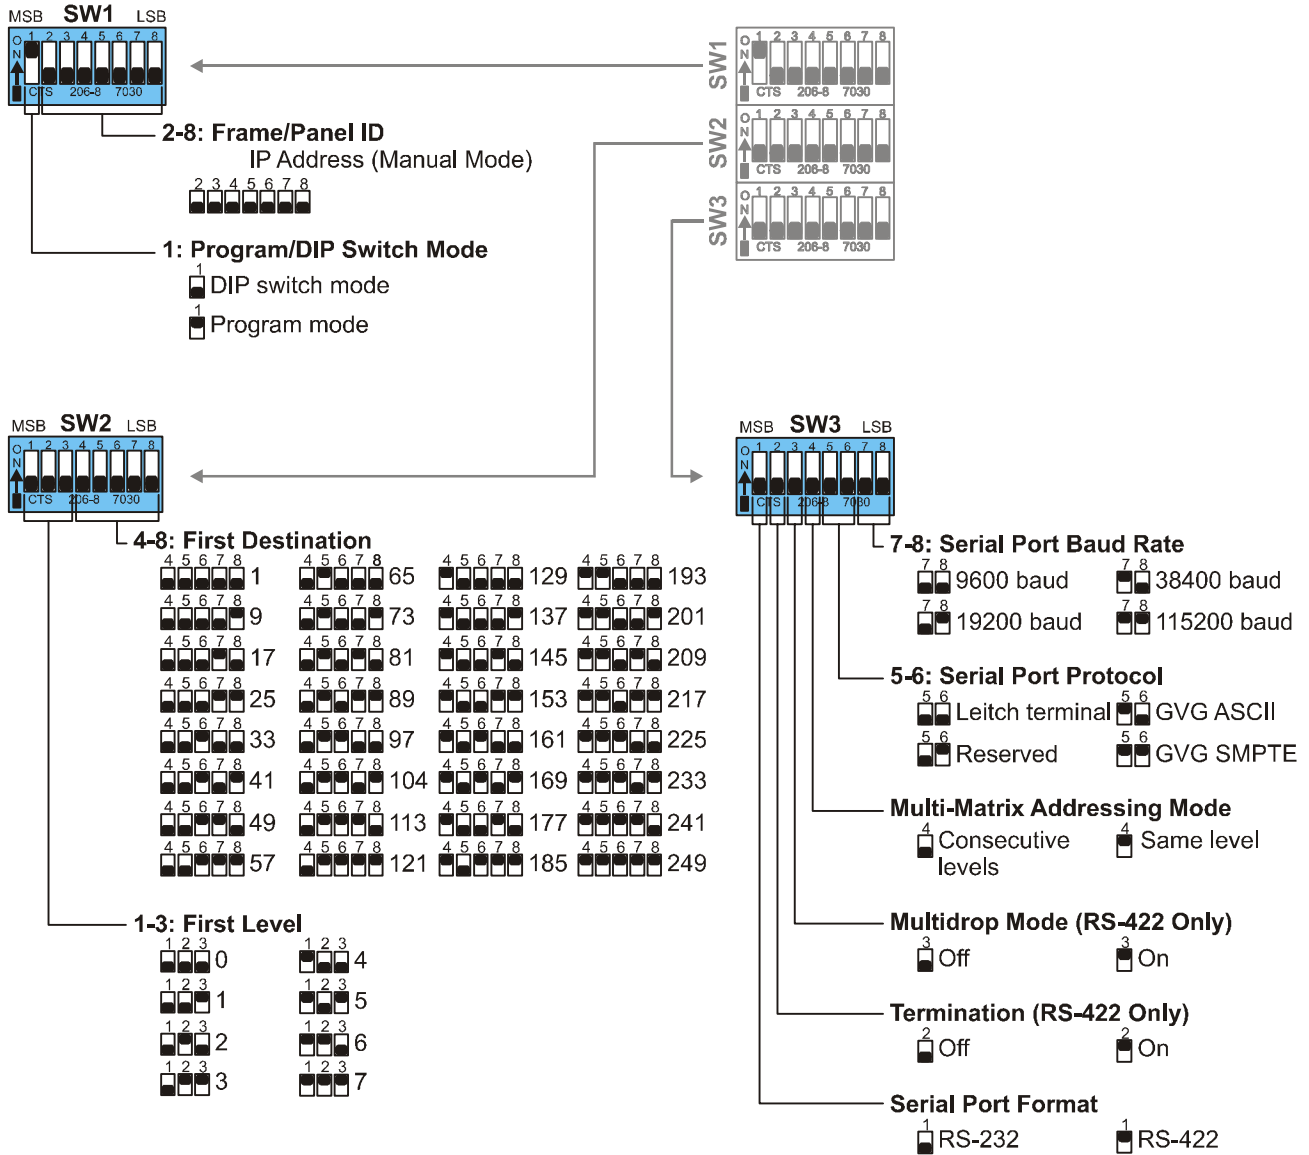

Figure 1 DIP Switches
2. Verify these DIP switch values on the logic controller module (see **Figure 1** on page 6 in this initial setup guide):
- Make sure the SW1 DIP switch pole 1 (Program/DIP Switch mode) is set to Program mode (ON).